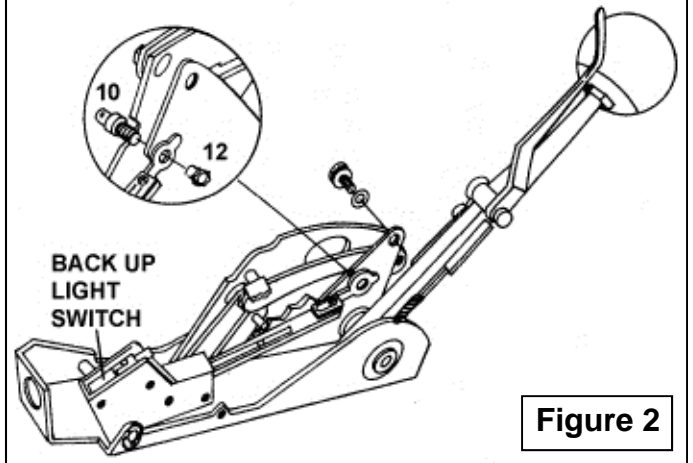

Figure 2
Remove the two screws that fasten the detent guide plate over the internal end of the control linkage. Remove the guide plate. See Figure 2.
3. Remove right side, lower the hex-head cap screw and washer from the shifter handle. (See Figure 2).
4. Use trigger to shift stick back to gain access to gear position detent plate. This allows access to back end of the cable pin. Engage the hole in the provided eye bracket over the back end of the cable pin. (See Figure 2)